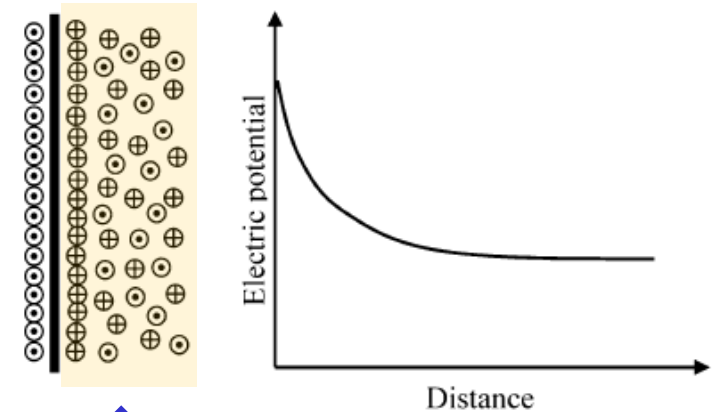

Fig. 4.8 Double layer of charges and fall of electrical potential from negatively charged plate with positive ion accumulation
- Helmholtz considered that the situation is like that in a parallel plate condenser, where there are opposite charges as plates separated by a medium (for example air as shown in Fig. 4.8)